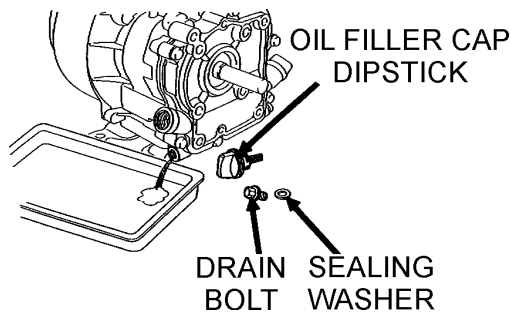

Figure 23. Engine Oil (Draining)
2. Drain the engine oil when the oil is **warm** as shown in Figure 23.